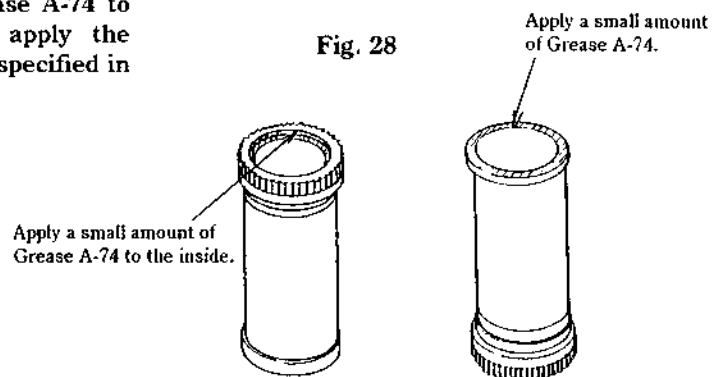

Fig. 28
- a) Apply a small amount of Grease A-74 to the Spool. However, never apply the grease to any area other than specified in Fig. 28.